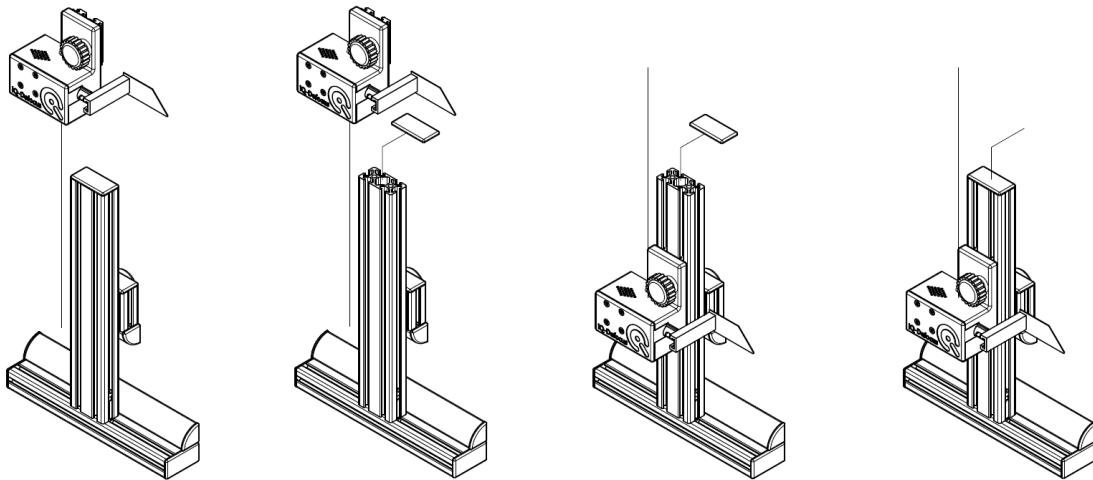

Figure 1: Attach the iQ-Defocus to the iQ-Mobilemount
- Slide the iQ-Defocus into the grooves of the iQ-Mobilemount as shown in Figure 1